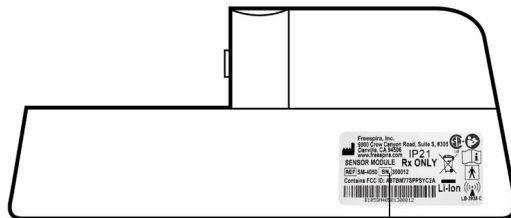

FIGURE 21
2. Locate the serial number on the bottom of the sensor (Figure 21).